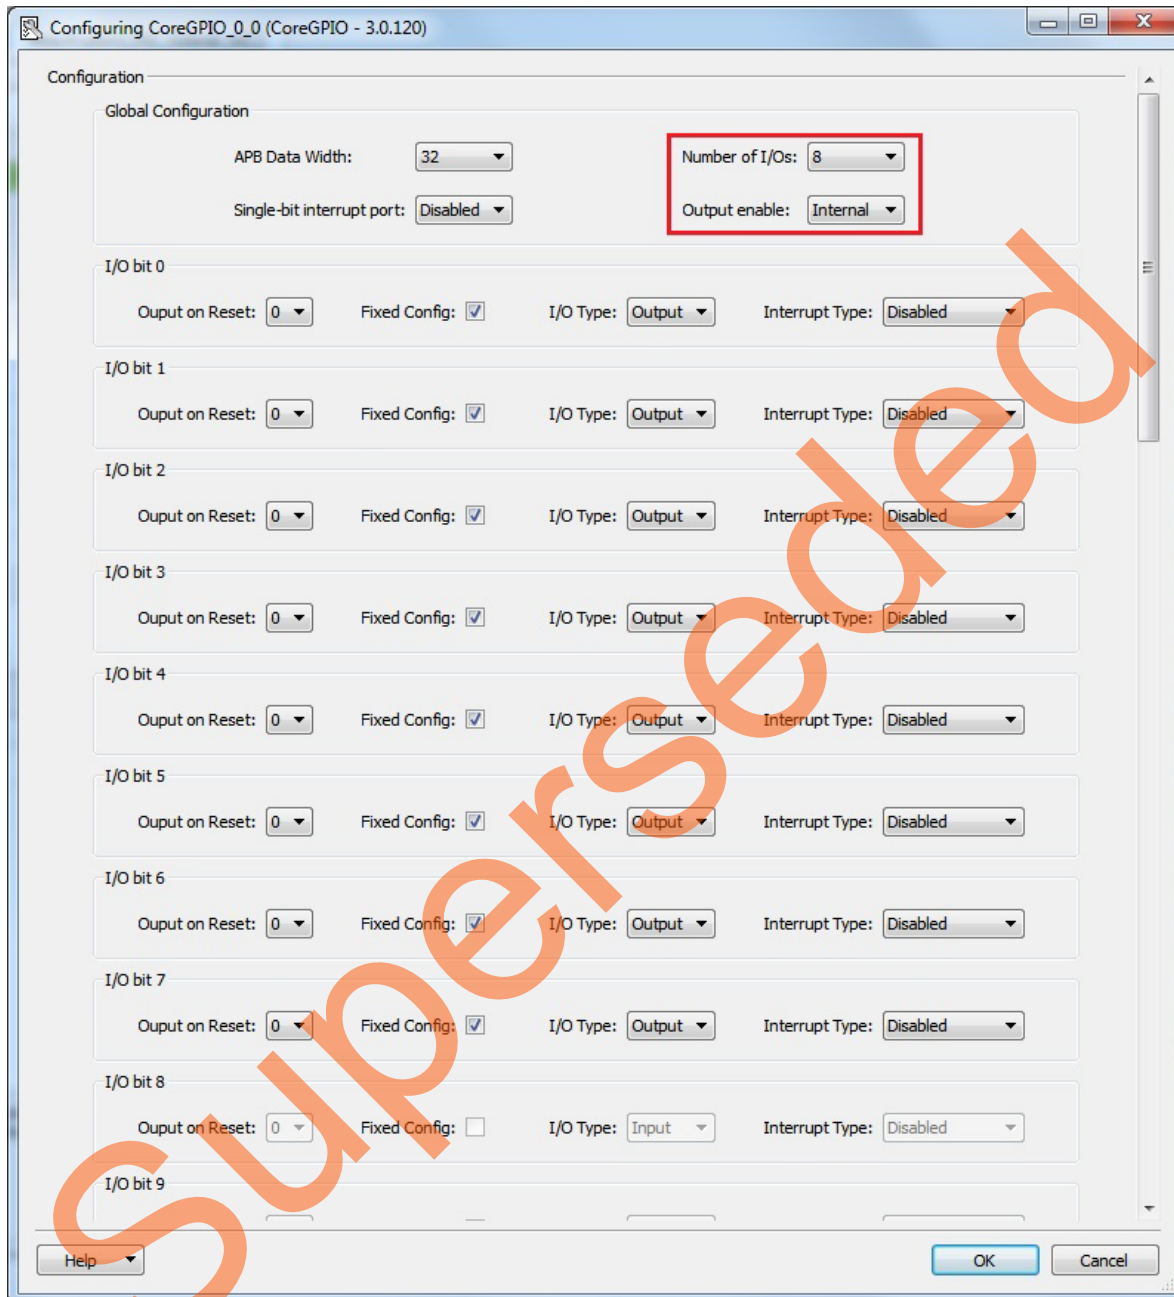

Figure 13 • CoreGPIO Configuration
17. Click **CoreGPIO** Configure icon and use the following settings for SmartFusion2 Security Evaluation Kit board as shown in Figure 13 on page 14, and keep the rest at default states